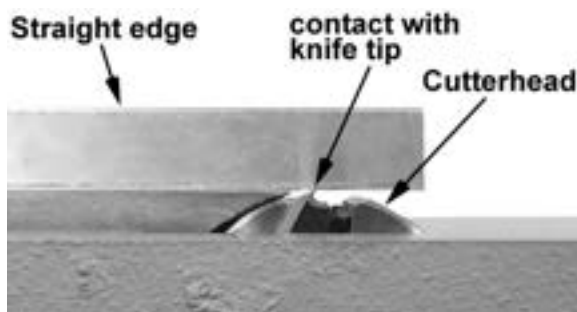

Figure 8-10
6. Raise or lower the *outfeed table* until the *straight edge* contacts the *knife tip*, as shown in Figure 8-10. Using the drive belt or pulley, rock the cutterhead slightly to make sure the apex of the knife is just barely contacting the *straight edge*.